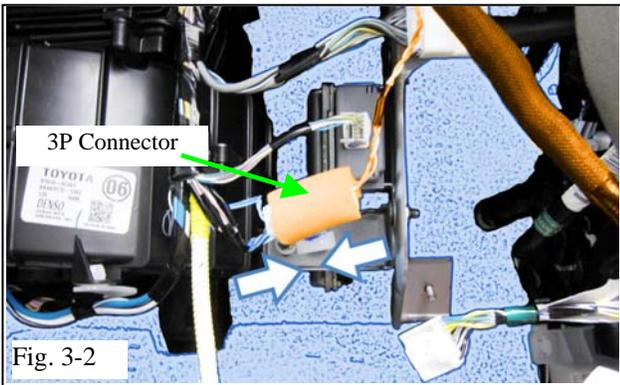

Fig. 3-2
- (c) Locate the Vehicle's Pre-wire WHITE 3P Male Connector on the right side of the HVAC Center Duct. (Fig. 3-2)
- (d) Connect the V4 Harness's 3P Connector to the Vehicle's WHITE 3P Male Connector. (Fig. 3-2)